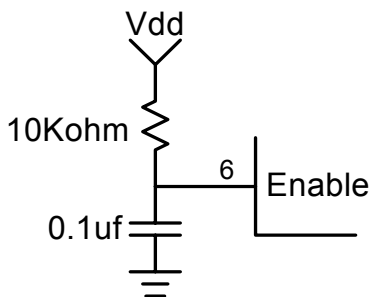

Figure 3. Schematic for RC Enable
A good design practice is to control the KXPS5 Enable pin (6) with a microprocessor, but it is also possible to enable the KXPS5 using the RC circuit shown in Figure 3. This circuit will transition the Enable pin high at power on, properly enabling the accelerometer after power has been supplied. Note that the RC values are just recommendations, therefore the final schematic may differ based on application needs.